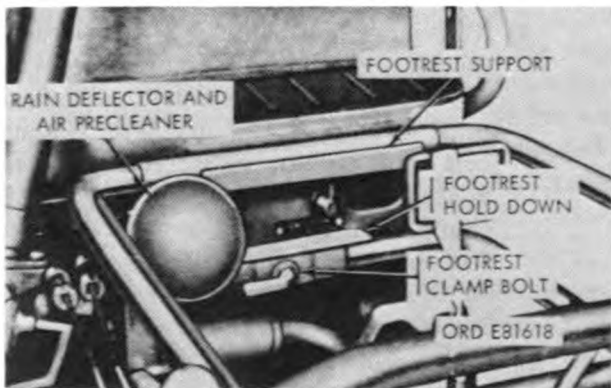
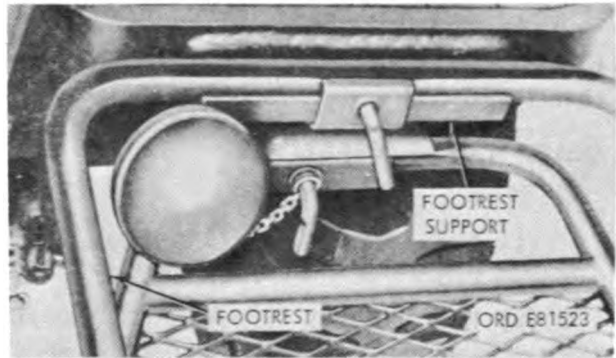

Figure 2-31. Removing or installing operator's footrest—M274A3 vehicle.
Figure 2-32. Removing or installing operator's footrest—M274A2, M274A4 and M274A5 vehicles.
- (4) To remove footrest on M274A3, loosen footrest clamp bolt, which secures lower portion of footrest to platform, until threads of bolt are free. Clamp bolt will remain with footrest (fig. 2-31). On other vehicles loosen second clamp bolt securing top portion of footrest frame to platform. Lift up on footrest and remove from vehicle footrest supports (fig. 2-32).